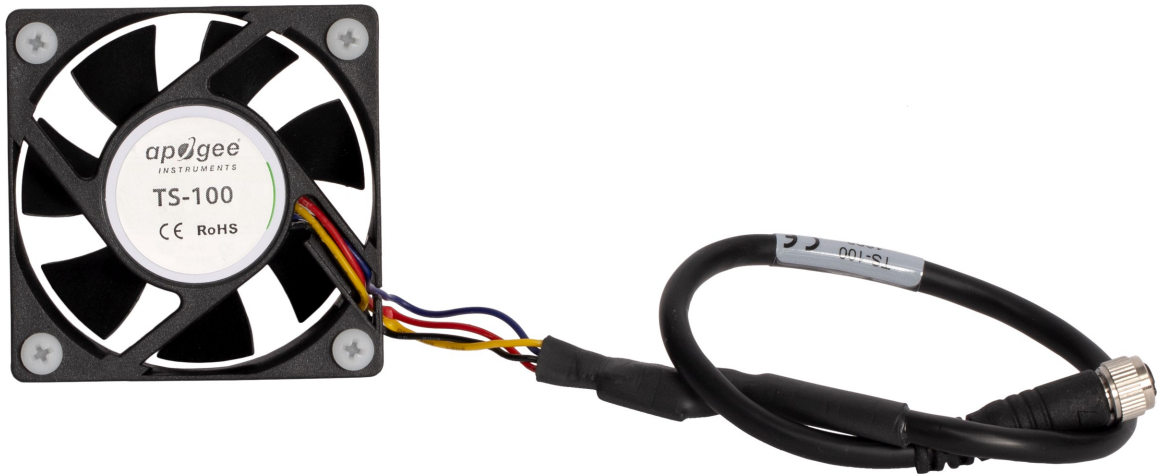

Figure 8-2. Replacement fan
4. Place the new fan (Figure 8-2 [p. 11]) in the shield body and orient the fan so the fan pulls air upwards through the shield towards the hat.